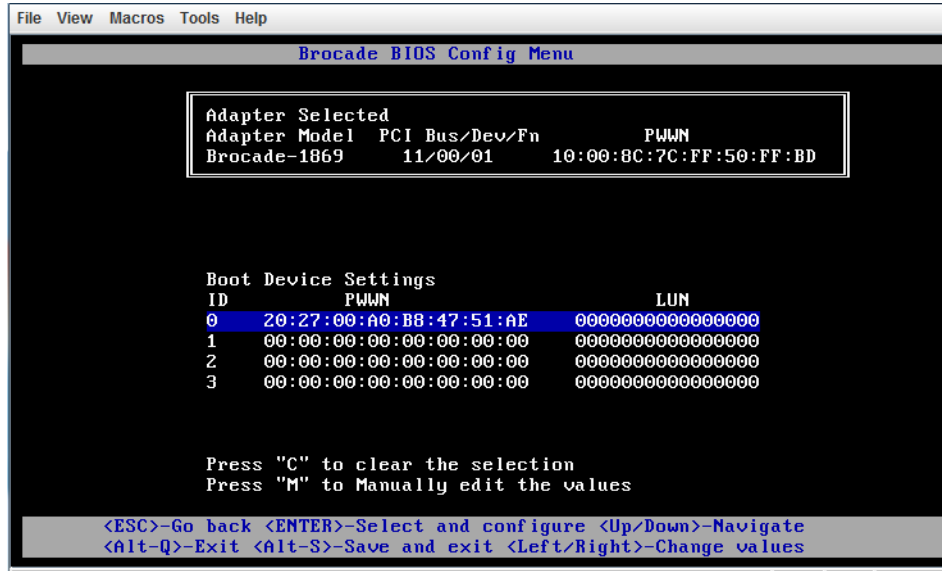

FIGURE 7 BIOS Configuration Menu (Boot Device Settings)
11. Press **Enter**. The selected device will be added to the list of boot devices for the adapter on the Boot Device Settings screen (Figure 7.)